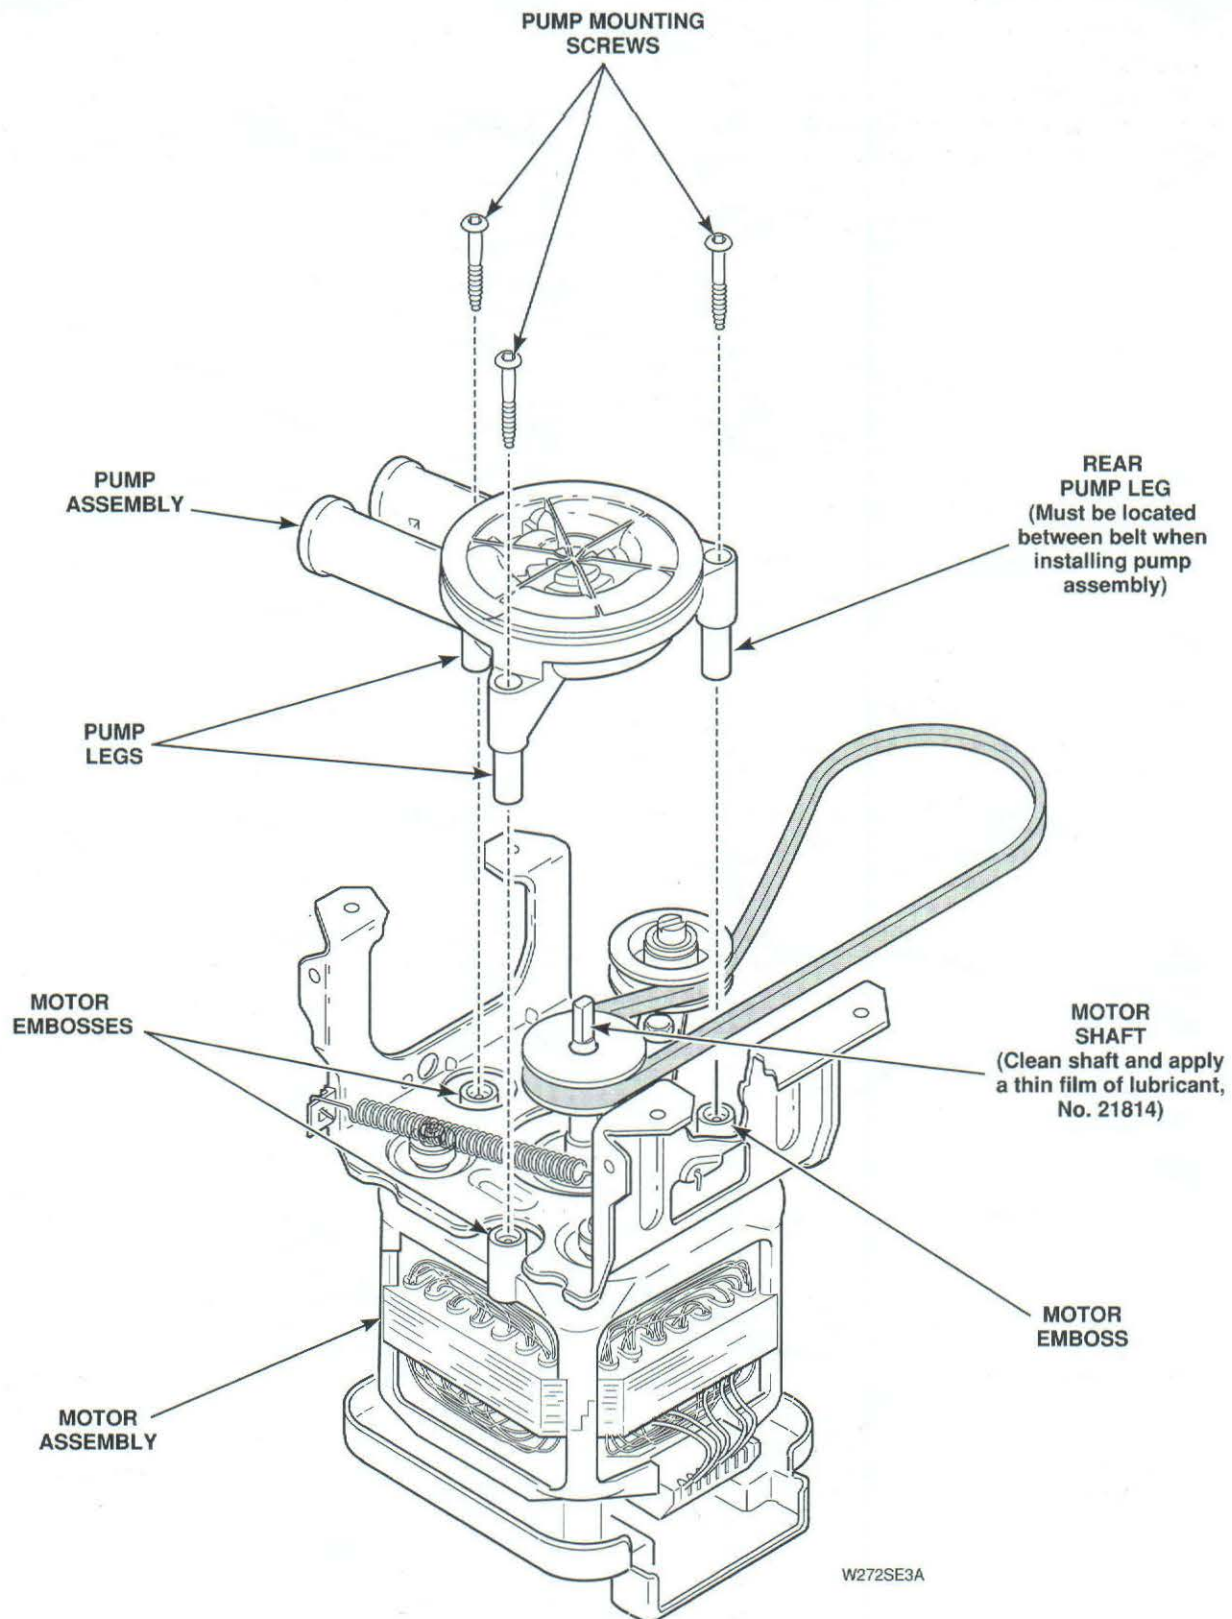

Figure 24
IMPORTANT: Carefully lay motor on its side. Observe belt configuration around rear pump leg. Belt **MUST** encircle rear pump leg when reassembling, *Figure 24*.
- Remove three screws holding pump assembly to motor, *Figure 24*.
- Align pump impeller hub with motor shaft. Make sure belt encircles rear pump leg, carefully push pump onto motor shaft so three pump legs bottom out in the embosses on motor housing before screws are tightened, *Figure 24*.